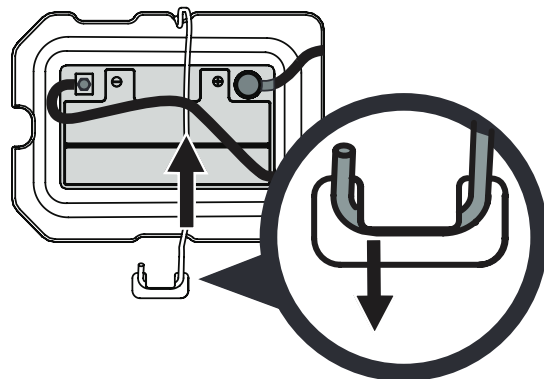

Figure 22
NOTE: Wiring harness should lay on top of battery hold down rod, otherwise damage to the wiring harness may result (Figure 22 on page 13).
3. Remove the battery hold down rod by pushing the hooked end out of the tab on the fender to the right side of the battery. Then flip the battery hold down rod up to free the battery (Figure 22).